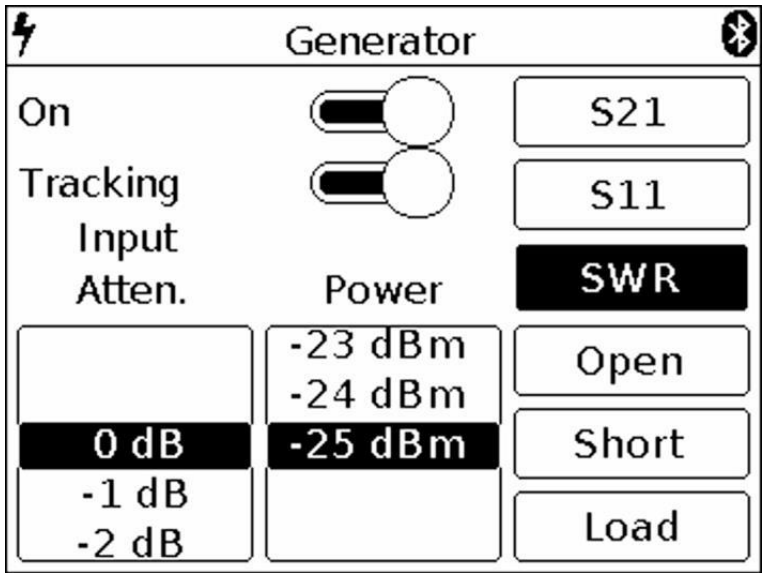

Figure 21 Enabling SWR mode
7.8.1 To measure the standing wave ratio, you must select the SWR mode (Figure 21). The standing wave ratio is measured in SWR mode. The graph will be displayed with the vertical axis as a numerical standing wave ratio. The horizontal axis shows the specified frequency range of the signal.
7.8.4. Select the SWR mode in which you want to measure, as shown in figure 21. On the screen under the grid, the information label will display the SWR mode and the warning UNCAL (not calibrated).